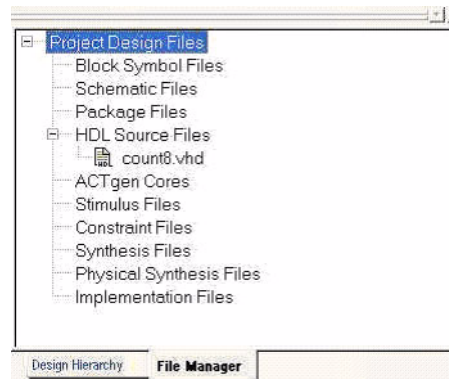

Figure 7-10. Design Hierarchy and File Manager Tabs
4. Check the HDL in the file before you continue. In the Design Hierarchy or File Manager tab (Figure 7-10), right-click *count8.vhd* and select **Check HDL file**. This checks the syntax of the *count8.vhd* file. Before moving to the next section, modify the code if you find any errors.